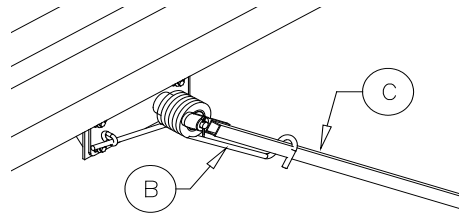

Figure 16
Position the bottom pivot arm (C) so it is hooked in the helical torsion spring (B) (see Figure 16). Repeat the above procedure for the opposite side of the box.